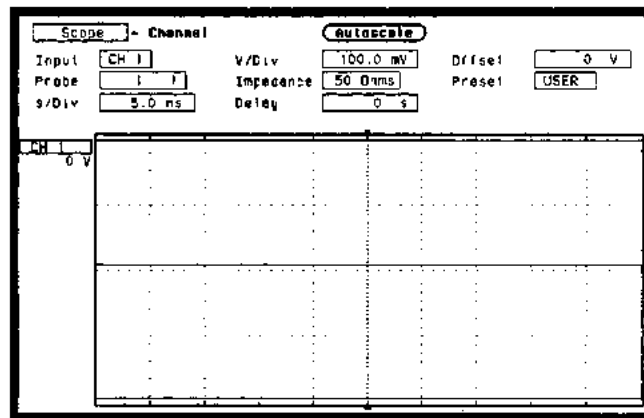

Figure 3-59. Channel Menu Configuration
4. Set **Input** to **CH 1**, **V/Div** to **100.0 mV**, **Offset** to **0 V**, **Probe** to **1:1**, **Impedance** to **50 Ohms**, and **s/Div** to **5.0 ns** as in figure 3-59.